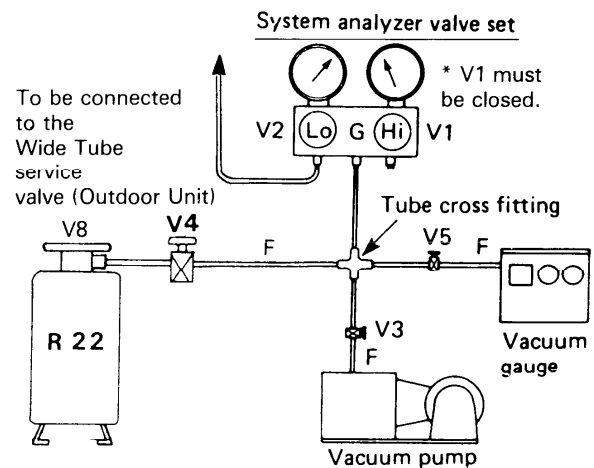

Fig. 20
- 1) Prepare the system analyzer valve set and connect charging hoses as in Fig. 20. Be sure to close all valves before connection. (Refer to 24 page, Fig. 33-C)